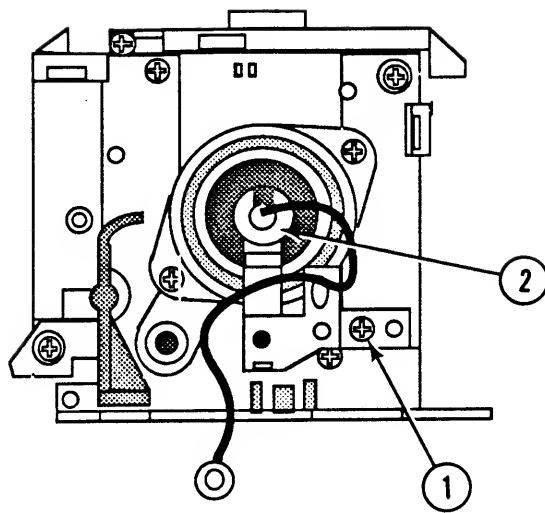

FIGURE 12
9. Remove the Phillips screw (Figure 12, #1) that secures the left heater support (Figure 12, #2) to the fuser assembly. Remove the support.